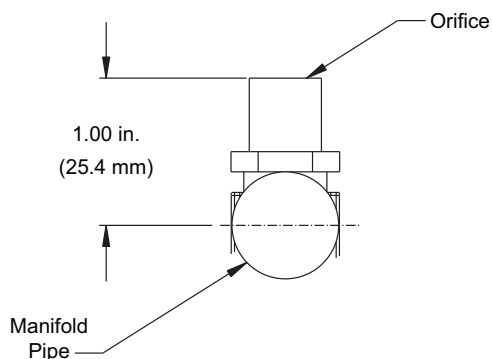

Fig. 54 — Orifice Projection
Refer to Fig. 54 for maximum projection dimension for orifice face to manifold tube.
5. If factory orifice has been removed, check that each orifice is tight at its threads into the manifold pipe and that orifice projection does not exceed maximum value. See Fig. 54.
Ensure each replacement orifice is tight as its threads into the manifold pipe and the orifice projection does not exceed maximum value. See Fig. 54.